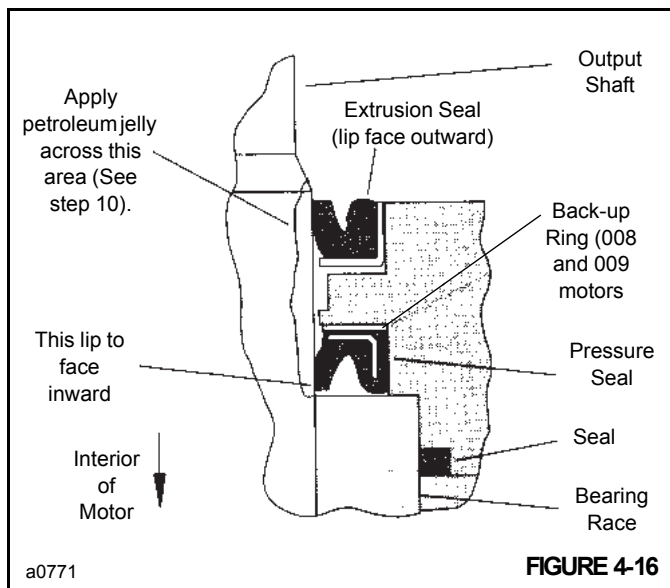

FIGURE 4-16
10. Before installing the flange and seal assembly over shaft (9) Figure 4-7, place a protective sleeve or bullet over the shaft. Then lubricate the space between exclusion seal (2) and pressure seal (5), as well as the lips of both seals Figure 4-16.